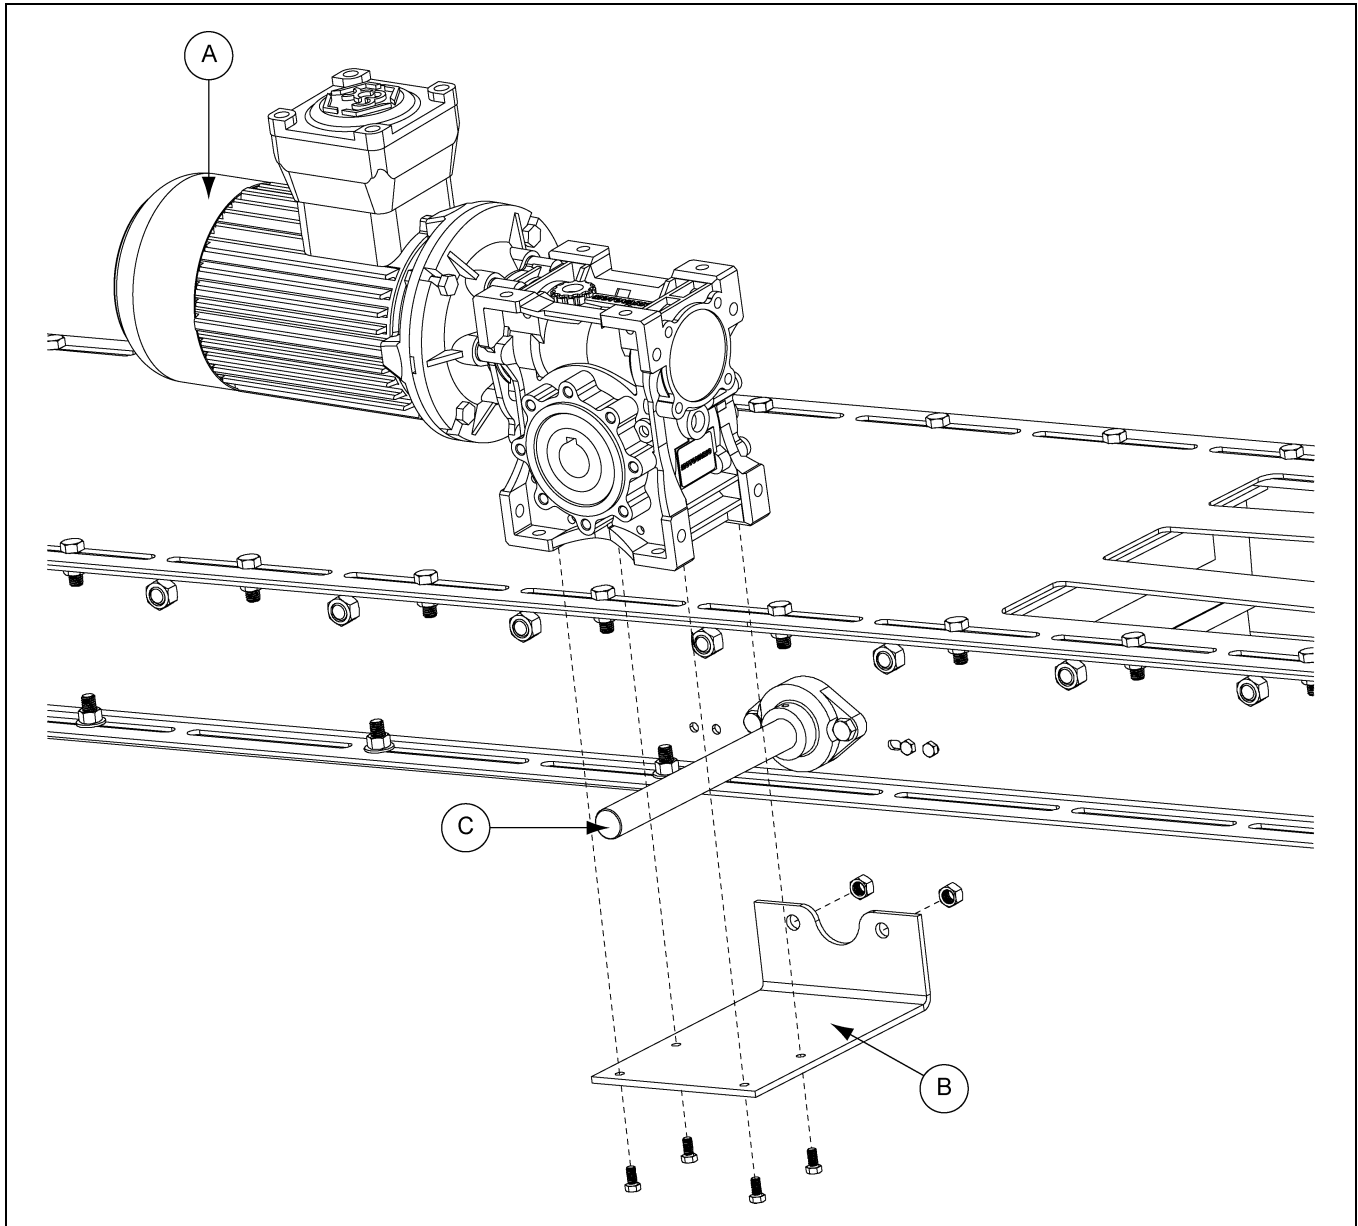

Figure 3D *Installing the Motor Bracket - Cross Cut*
1. Install the motor bracket (B) to the gate. Then attach the motor (A) to the bracket (B) as shown in Figure 3D, using the provided hardware.